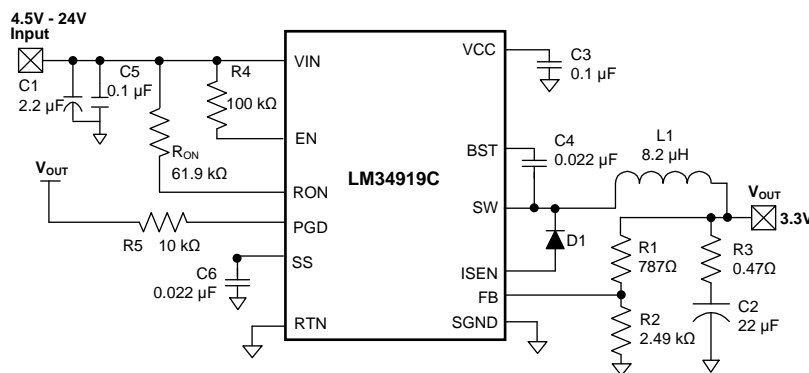
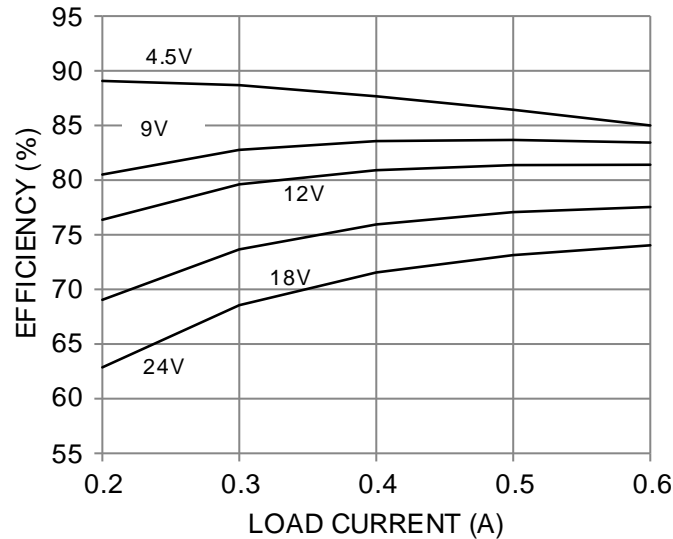
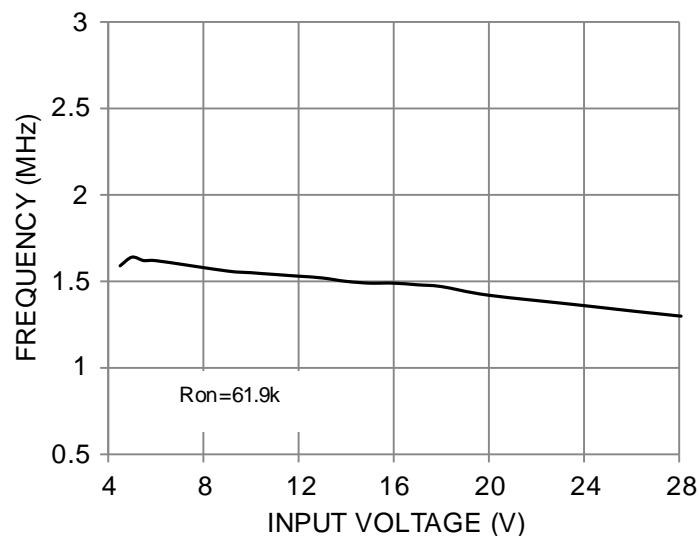
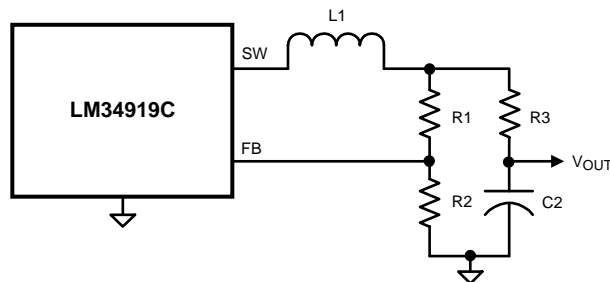

Figure 9. Example Circuit
Figure 10. Efficiency (1.5 MHz, $V_{OUT} = 3.3 V$)
Figure 11. Frequency vs. V_{IN} ($V_{OUT} = 3.3 V$)
Figure 14. Alternate Minimum Output Ripple Configuration
The final circuit is shown in Figure 9, and its performance is shown in Figure 10 and Figure 11.
c) Alternate minimum ripple configuration: The circuit in Figure 14 is the same as that in Figure 9, except the output voltage is taken from the junction of $R3$ and $C2$. The ripple at V_{OUT} is determined by the inductor ripple current and $C2$'s characteristics. $R3$ slightly degrades the load regulation because the feedback resistors are not directly connected to V_{OUT} . This circuit may be suitable if the load current is fairly constant.